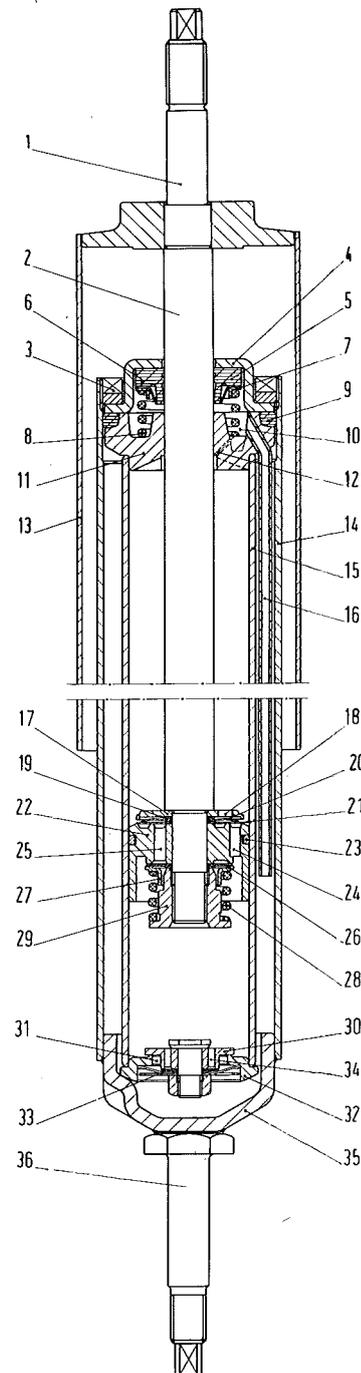

Fig. 264 - Sectional view of shock absorber.
Essentially, a shock absorber of this type consists of a cylindrical body formed by two coaxial tubes (14) and (15) (fig. 264), of which the inner one acts as a working cylinder and the outer one as a casing.
The bleeder device consists of a capillary hole (12, fig. 264) interconnecting the inner cylinder (15) with the upper chamber (10), and of a passage tube (16) from upper chamber to fluid reservoir.
g) capillary hole (12, fig. 264) is not plugged.
Mount piston on rod, insert rod and piston assembly into cylinder (15, fig. 264).